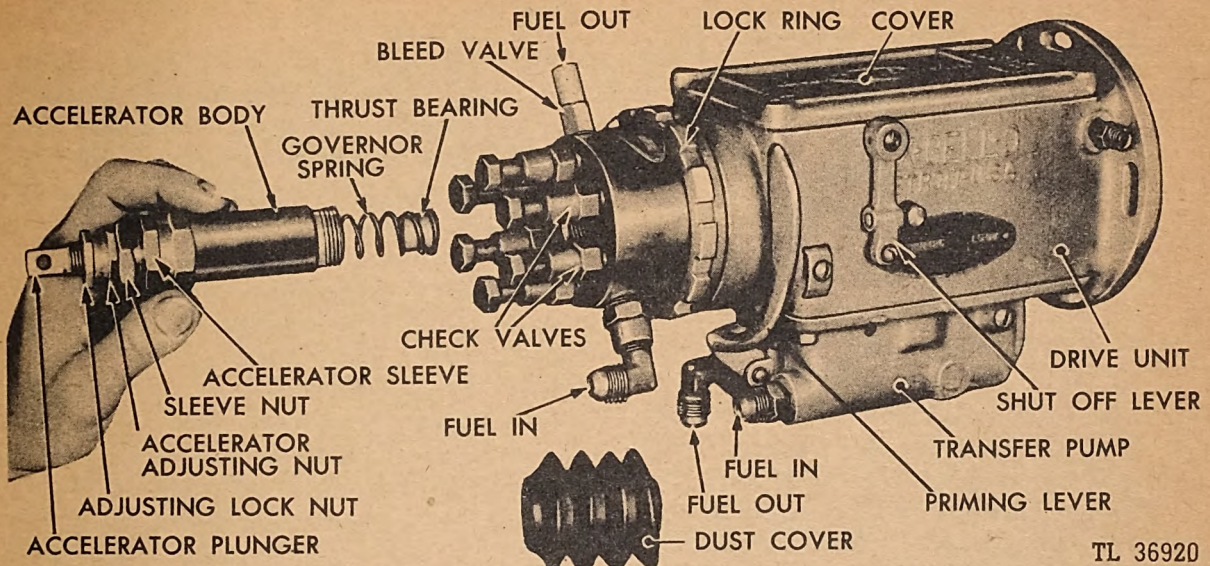

Fig. 268. Removing Accelerator Unit
- (1) Remove the dust cover.
- (2) Unscrew the accelerator unit from the hydraulic unit as shown in Figure 268.